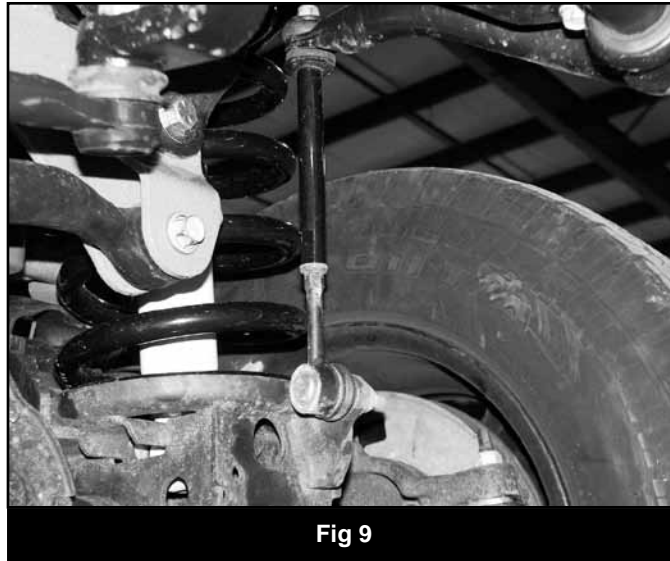

Fig 9
31. Apply loctite to the threads on the OE sway bar links. Thread the provided link extension (01249) on the OE links and tighten securely. Attach the extension to the sway bar with the OE washers, bushings and nuts. Tighten the nut until the bushings begin to swell. (Fig. 9)